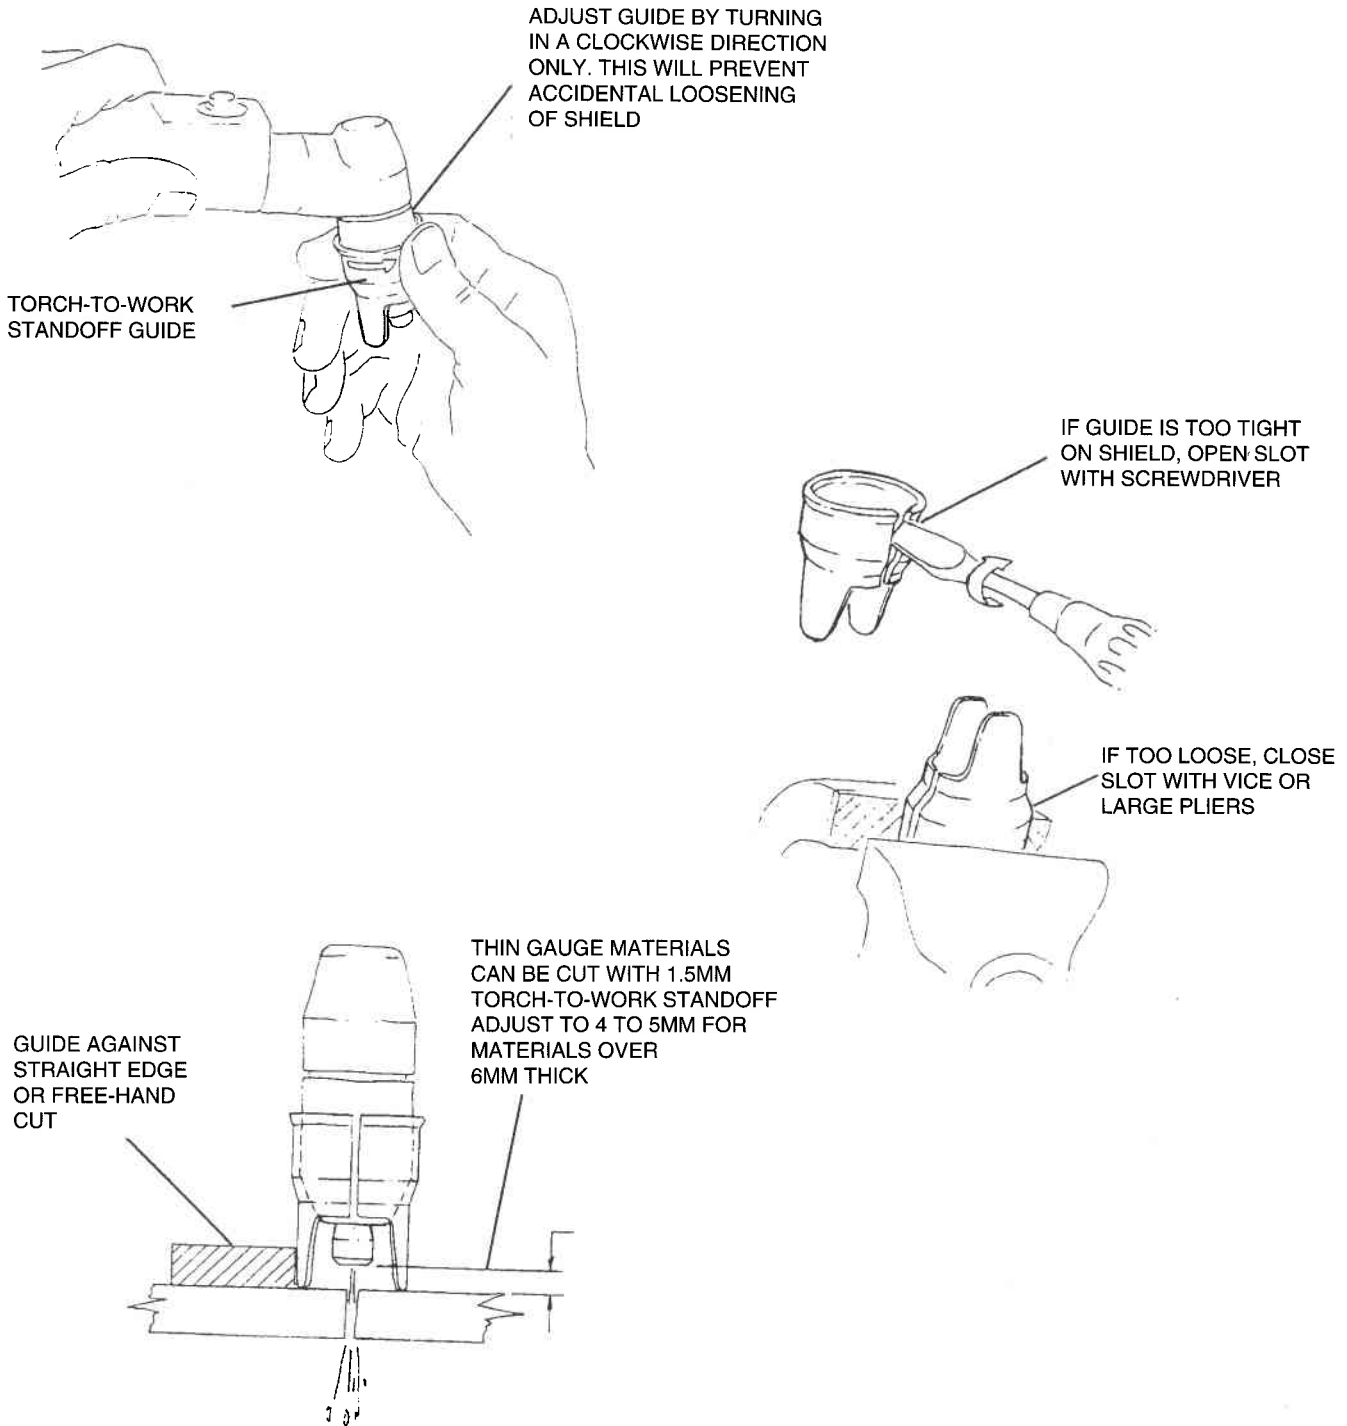

Figure 8 PT-81 Torch-To-Work Standoff Guide
4. After starting the cut, the torch may be returned to the upright position. When not using the standoff guide, the nozzle should be held approximately 3mm from the work. When using the standoff guide, refer to Figure 8.